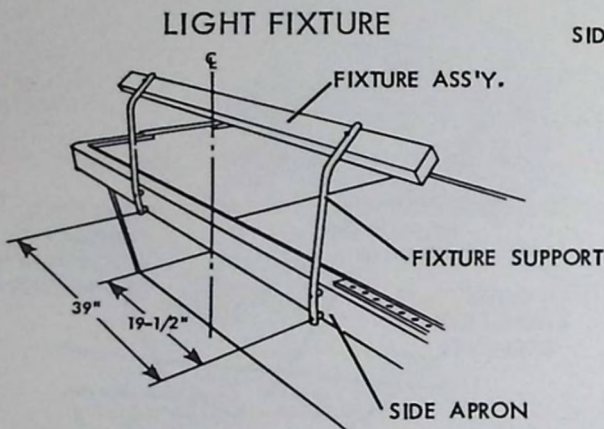

FIGURE 28
1. The light fixture attaches to the side of the table apron, centered on table center (Figure 28). Mark the two (2) dimensions squared on the apron side.